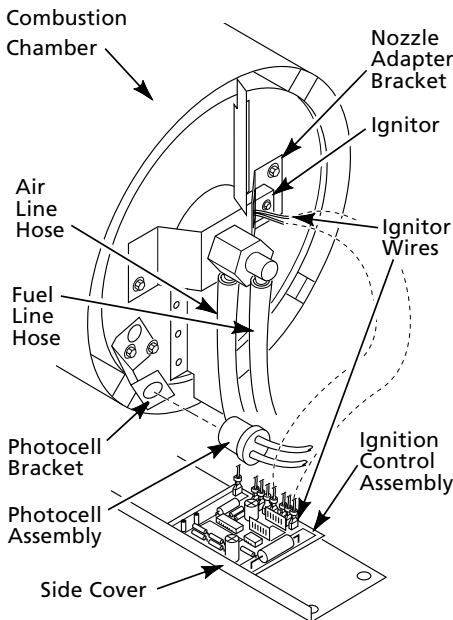

Figure 16 - Disconnecting Ignitor Wires from Ignition Control Assembly
4. Disconnect yellow ignitor wires from ignition control assembly (See Figure 16). Pull the ignitor wires up through the hole in the lower shell.
5. Disconnect fuel line hose and air line hose. Remove photocell from photocell bracket (See Figure 16).